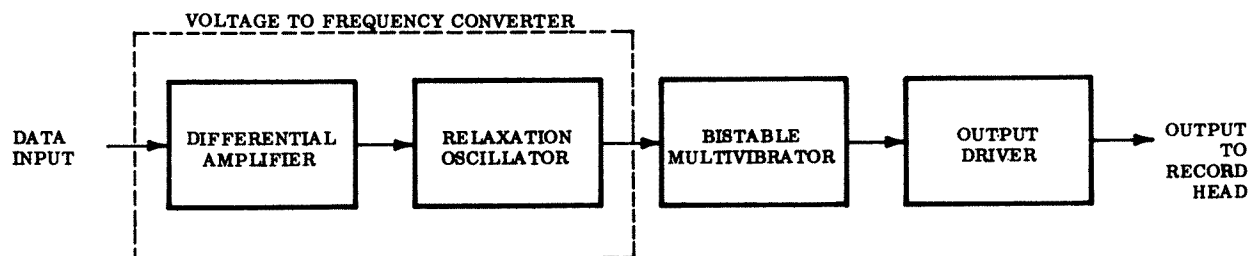

Figure 5-14. Block Diagram, FM Record Amplifier
5.91 The following circuit description divides the FM record amplifier circuitry into three major sections: the voltage-to-frequency converter, the bistable multivibrator, and the output driver. See the block diagram, Figure 5-14, and the schematic, Figure 8-10.